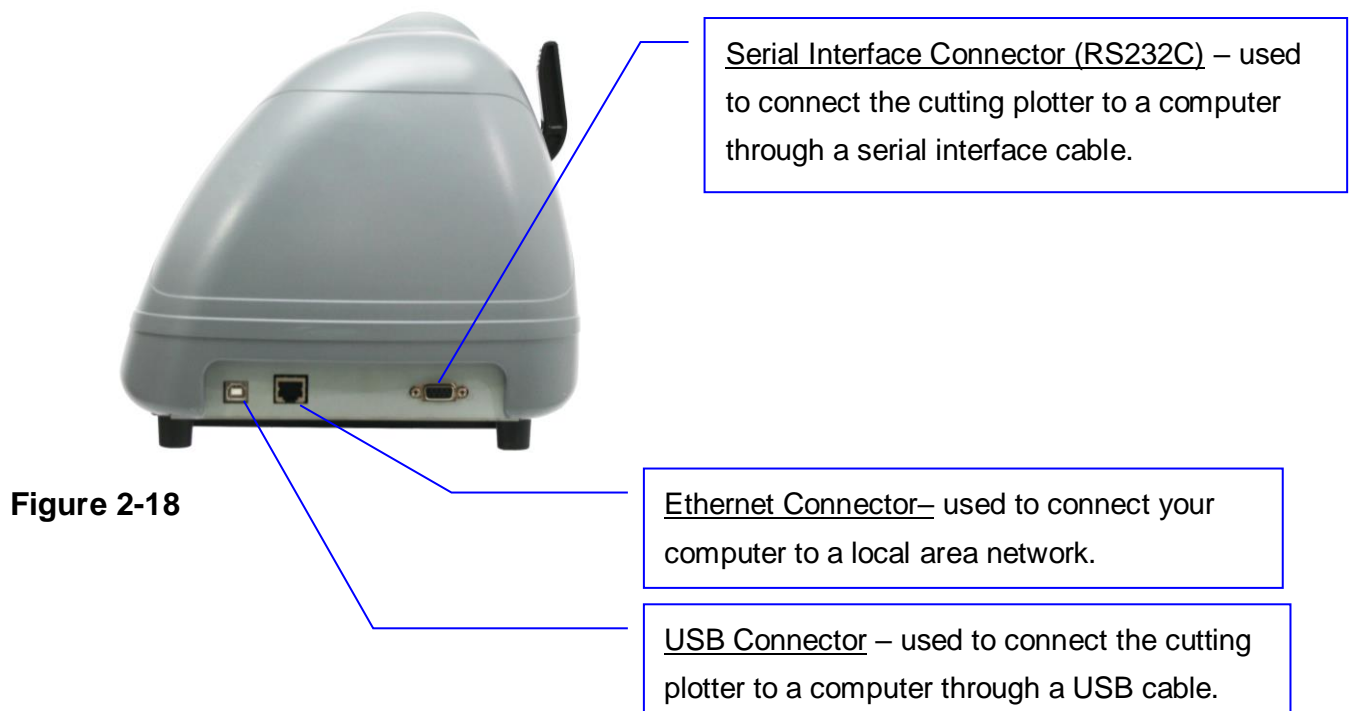

Figure 2-17
Step 6 Press the push-pin to remove the blade from the blade holder when replacing blade (Figure 2-17).